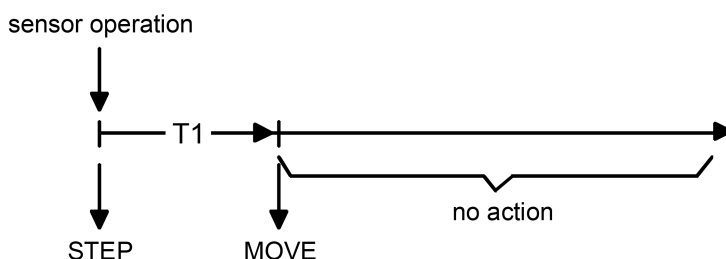

Figure 29: Telegram concept when a sensor surface of the channel function is touched "Rolling shutter Step/Move"
- Immediately on pressing a sensor surface the device transmits a short time telegram to the bus (figure 29), whereupon a running drive is stopped and the "time between short and long time operation" T1 is started internally. If the pressed sensor element is released again within T1, the device transmits no further telegram. This short time serves the purpose of stopping a continuous movement.